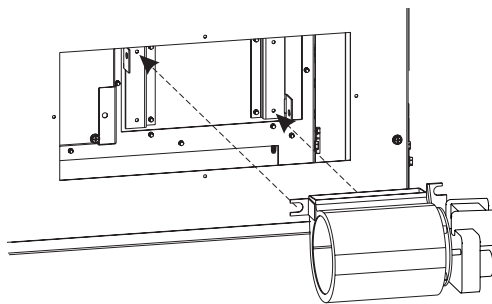

Figure 10
5. Place Blower onto Blower Brackets. (Figure 10)